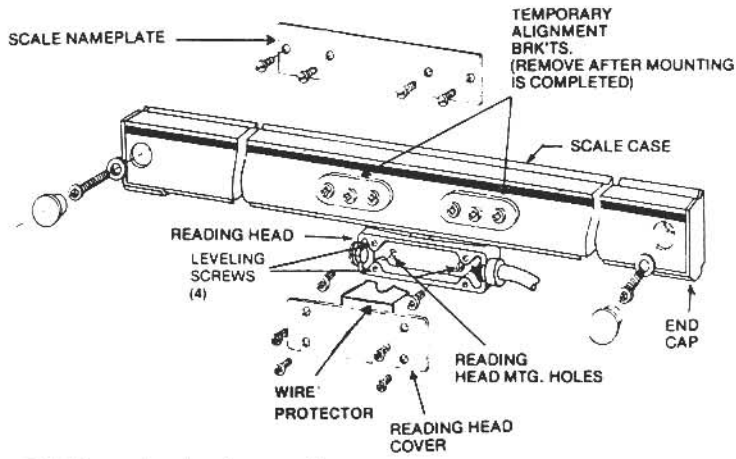

Figure 1-1. MillMate Scale Assembly
2. Hold the scale assembly against the front or back edge of the table to determine mounting position. Refer to the mounting information provided in Figures 1-1, 1-2 and 1-3. In most cases, the scale case should be mounted to the table, and the reading head mounted to the saddle.
13. Transfer punch the two mounting holes in the reading head casting (Figures 1-1 and 1-2) on to the mounting surface. Drill and tap two $\frac{3}{8}$ " (10 mm) deep holes for the #8-32 x $\frac{1}{2}$ " (M4 x 0.7 x 12 mm) BHCS provided.